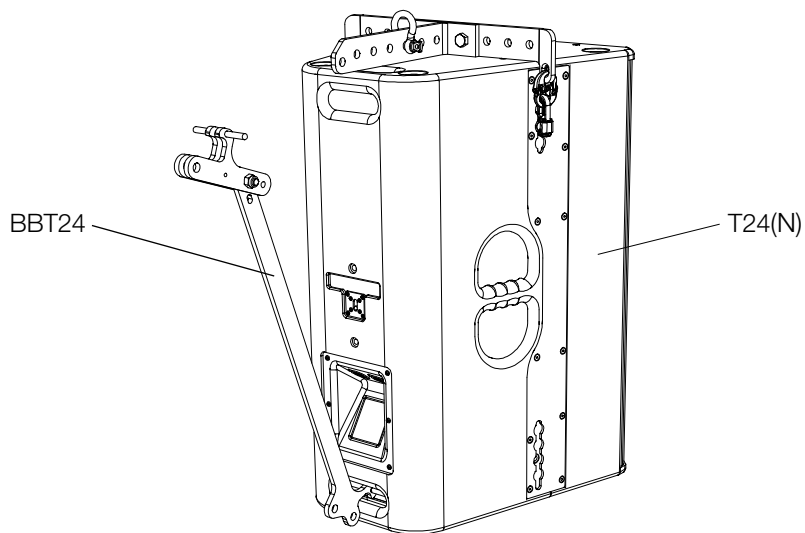

Figure 4.6 - Hooking the BBT24 bracket in the lower handle
Place the T24(N) speaker on a non-slip surface and hook the BBT24 bracket into the lower handle of the T24(N) speaker as shown in figure 4.6.